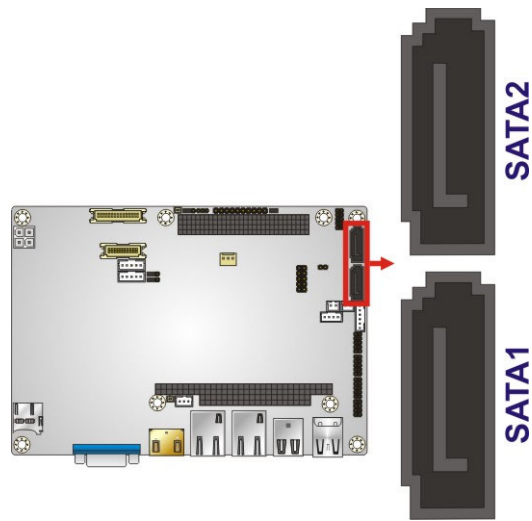

Figure 3-20: SATA Drive Connector Locations
- CN Location:** See **Figure 3-20**